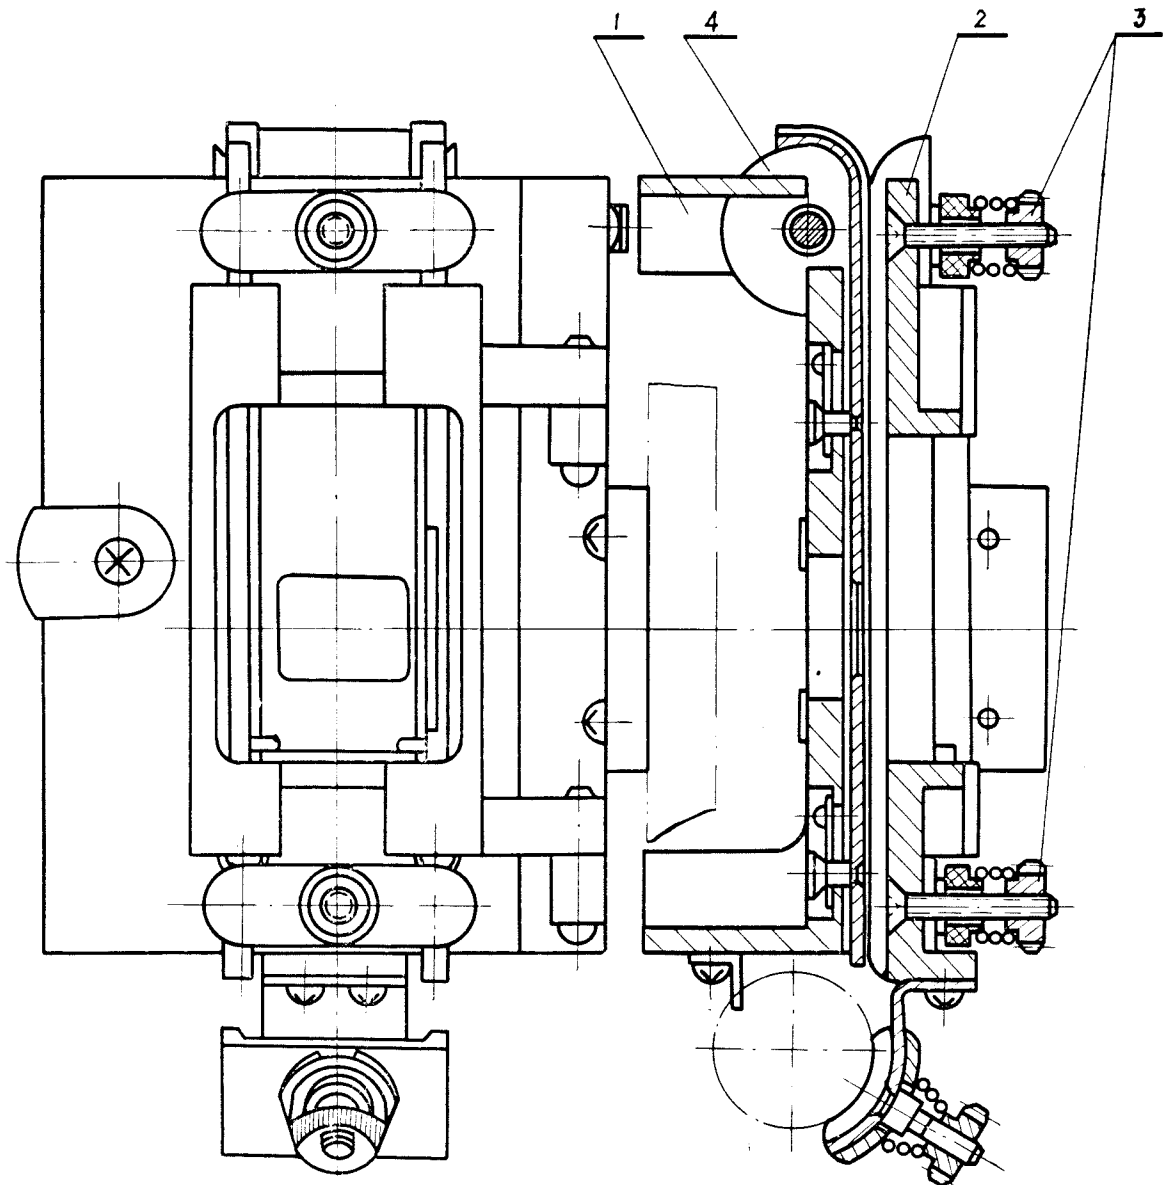

Fig. 8
The construction of the Film gate stand & cover is in serting type, easy for dismantling and clearing. When adjusting the tension of film gate, turn the nut(3) till the film tension is about 120-150 grams. A guide roller over the film gate is shown as Fig. 8, the roller could lead the film through the path correctly. Adjust the pressure of the tension shoe by turning the nut. If the tension